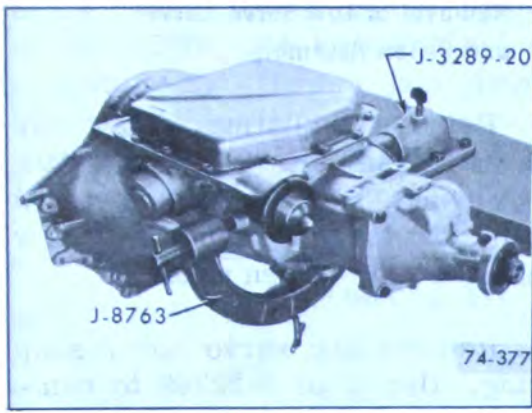

Figure 74-102
2. Place transmission on a CLEAN work bench and use CLEAN tools during disassembly. Provide CLEAN storage space for parts and units removed from transmission. An excellent working arrangement is provided by assembling the transmission to Holding Fixture J-8763. See Figure 74-102.
1. If Transmission has been removed from car, assemble in Fixture J-8763. See Figure 74-102.